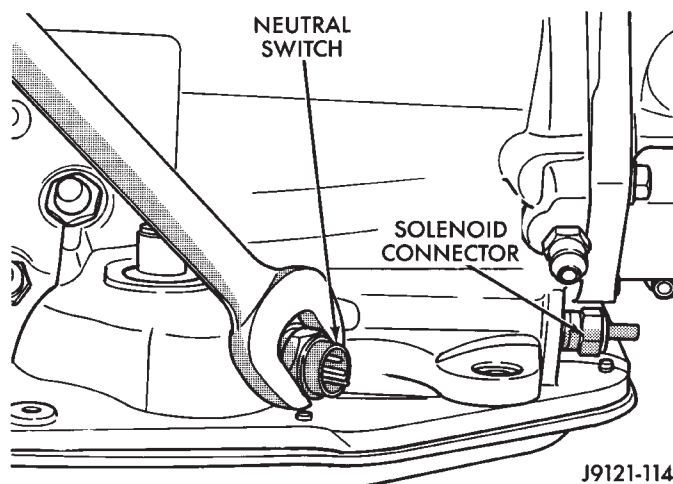

Fig. 130 Park/Neutral Position Switch Removal/Installation
(15) Remove park/neutral position switch (Fig. 130).